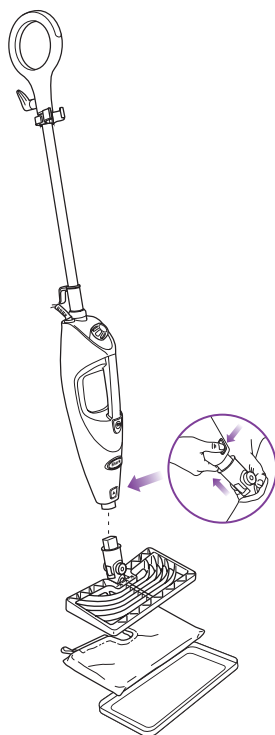

fig. 2
- 3 Snap the mop head into the mop body by lining up the groove on the back of the mop body with the groove on the back of the mop head. Push until you hear it latch into place. Press the release button to remove or change the mop head. (fig. 2)